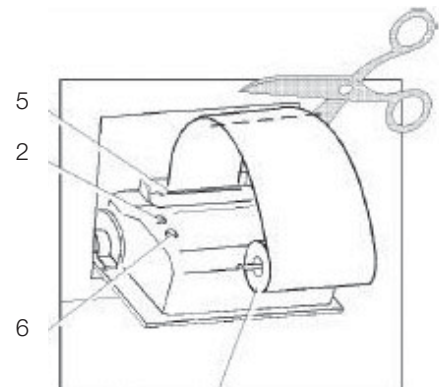

Figure 4.2
To replace the paper roll (3), proceed as follows (see Figure 4.2):
1. With scissors, cut the paper between the roll (3) and the paper feed slot (5)
3. Press the paper advance button (6) to feed the paper that remains in the printer out of the slot at the front of the printer.